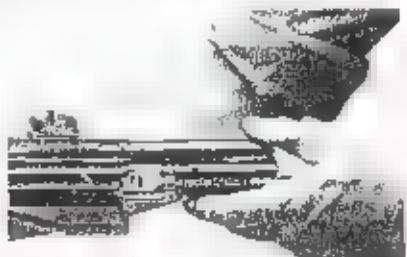

Figure 13E)
B. Push the bolt head with the long ejector cut facing upward and the slanted surface under the nose of the bolt head locking lever holding a distance of 5mm or about the thickness of a ruler between the face of the bolt carrier and the back of the bolt head. (See Fig. 13D). Turn the bolt head to the right making sure that the nose of the bolt head locking lever stays on the raised shoulder of the bolt head. (See Fig. 13E). Continue to rotate bolt head until the long ejector cut and slanted surface is facing downward